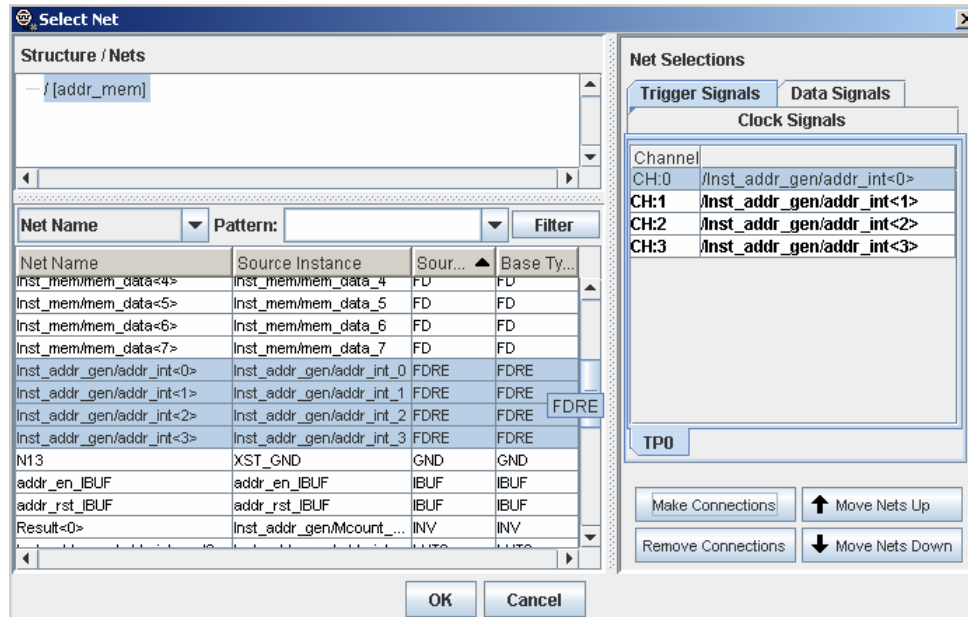

Figure 2.5 – Set Net window – Trigger Signals connection
- ④ After making the clock signal connection, select the **Trigger Signals** tab. Similar to connecting the clock net signal, connect the nets **Inst_addr_gen/addr_int<0>** to **Inst_addr_gen/addr_int<3>** as the trigger signals (figure 2.5).